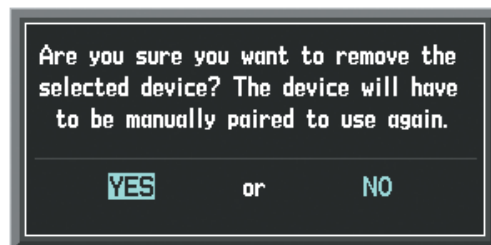

Figure 8-139 Device Removal Confirmation
- 3) Press the **REMOVE** Softkey. A confirmation screen is displayed as seen in Figure 8-139.